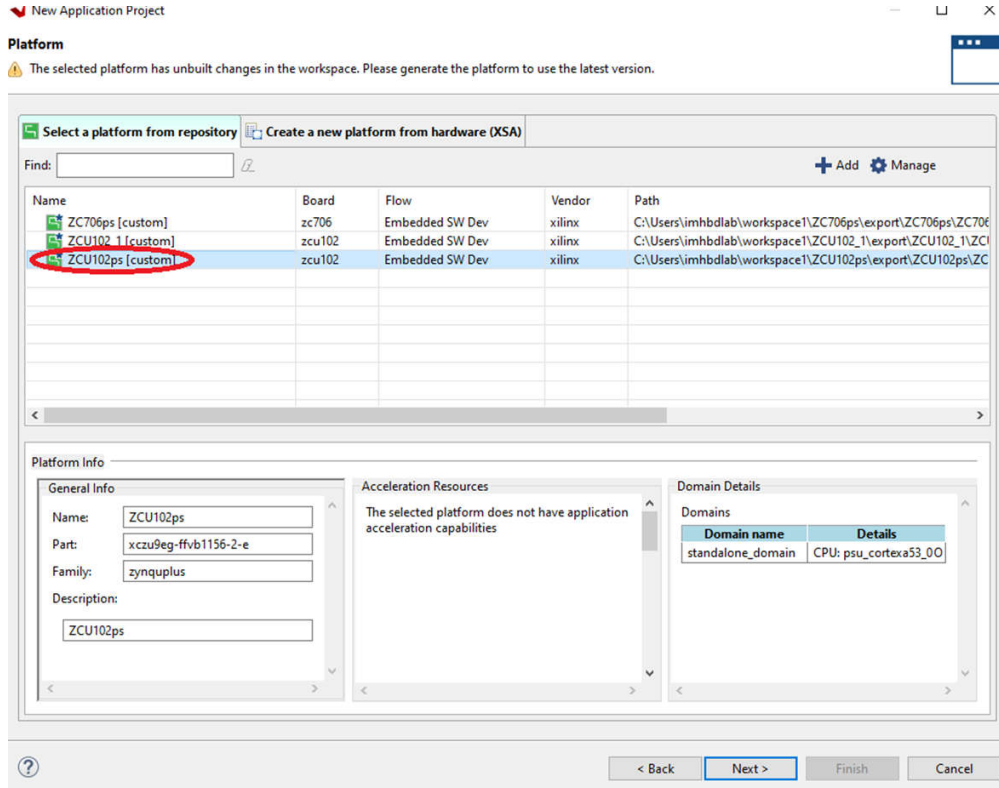

Figure 7-3. Selecting the Application Project
- Select the newly created platform *ZCU102ps* and click *Next* (see Figure 7-3).